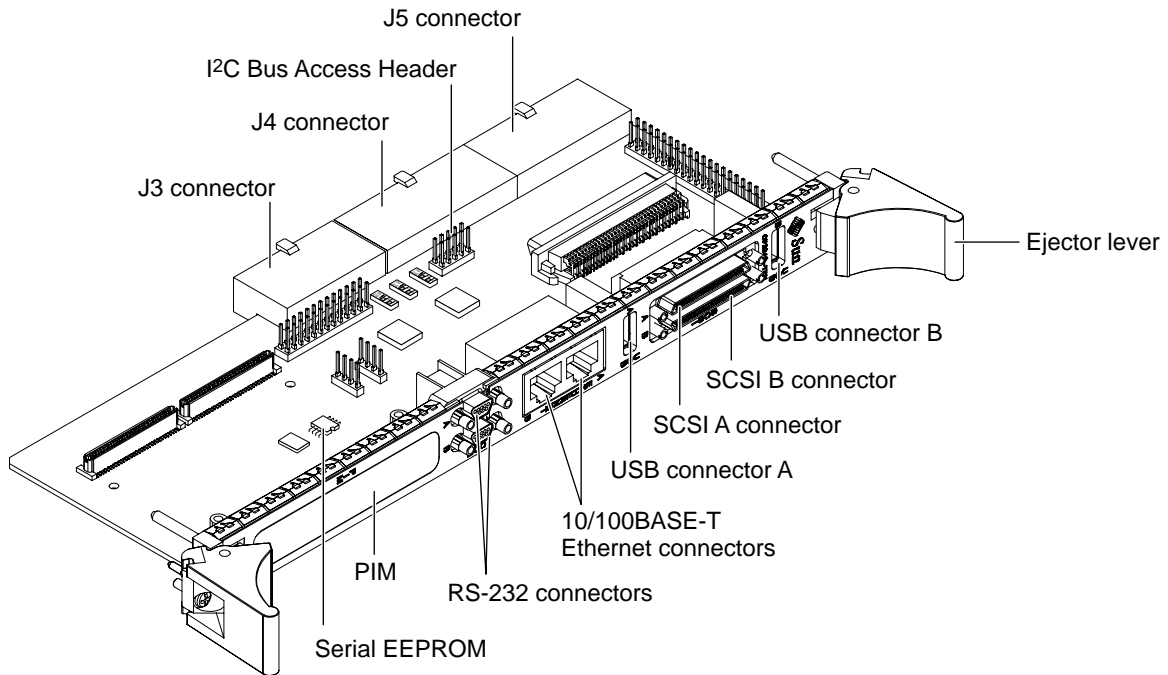

FIGURE 2-3 XCP2040-TRN Transition Card Connectors
- XCP2040-TRN I/O Transition Card (see FIGURE 2-3). This board is compatible with the Netra CP2140 board.
FIGURE 2-3 shows the XCP2040-TRN Transition Card and its connectors.